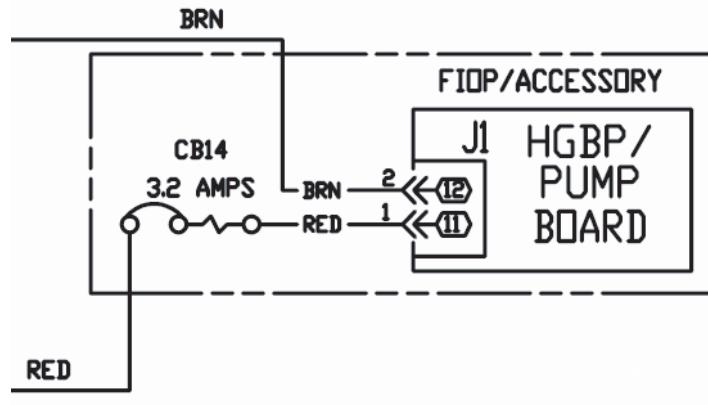

Fig. 8 — HGBP/Pump Board 24 v Power Wiring
5. Connect the 24-v power from TB10-X1 (30XA080-120: 460 v, 575 v only) or TB11-X1 (30XA080-120: 200/230 v and 30XA140-501: all voltages) to CB14 with the provided red wire in the harness assembly (TH70400864). Find two 2-pin plugs marked J1-11,12 with red and brown wires in the harness assembly (TH70400864). Connect the plug to the HGBP/Pump board J1 with the red wire connected to CB14 and the brown wire connected to TB10-X2 (30XA080-120: 460 v, 575 v only) or TB11-X2 (30XA080-120: 200/230 v and 30XA140-501: all voltages). See Fig. 8.